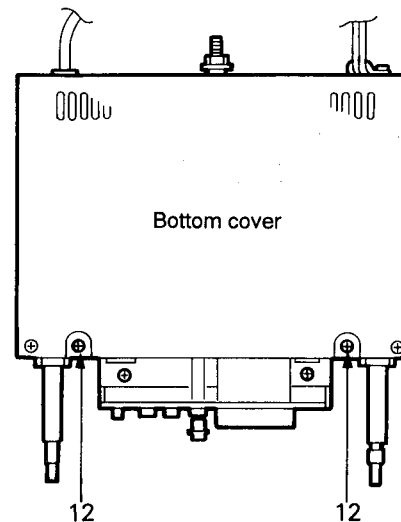

Fig. 4-11
■ Bottom cover (Figs. 4-11, 4-12, 4-13)
1. Place the set upside down, and remove two screws (12) retaining the bottom cover.
2. Place the set on its front side and remove two screws (13) retaining the bottom cover.